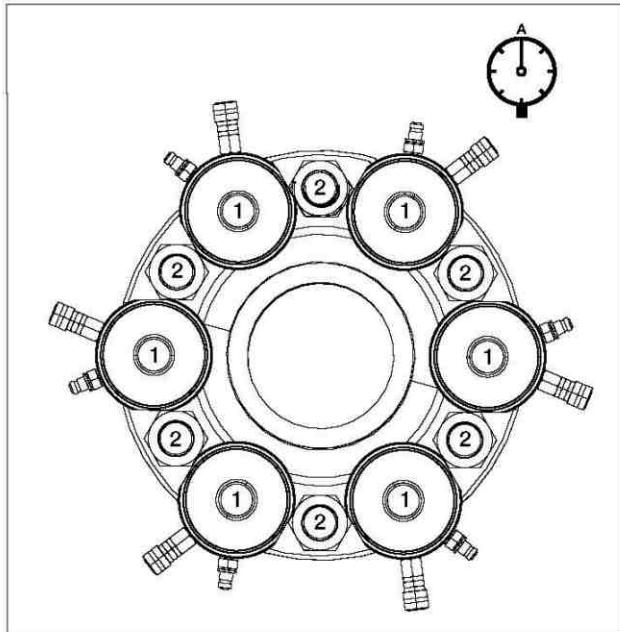

Figure 4.3-3 Tensioner Arrangement, First Pass-Typical
- 4.3.3 Assemble the tensioner(s) to the studs marked "1" and connect the hydraulic hoses. See Figure 4.3-3 for typical tensioner arrangement. Also refer to sections 3.